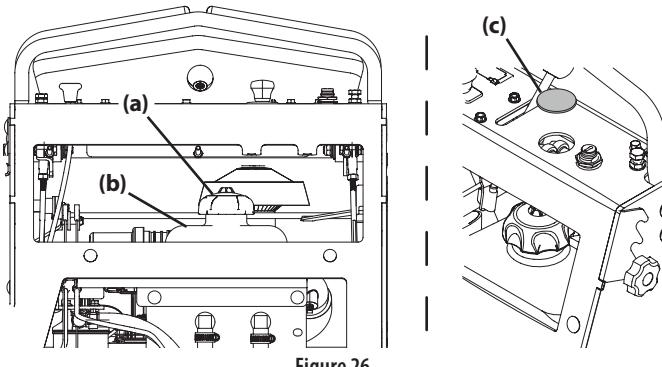

Figure 26
5. Mowers with 48 or 54 inch Mowing Decks Only: Insert a funnel into the reservoir (b). See Figure 26.
- a. Remove the black cap (c) from the control panel by reaching under the panel and squeezing the two tabs and pushing up. See Figure 26.